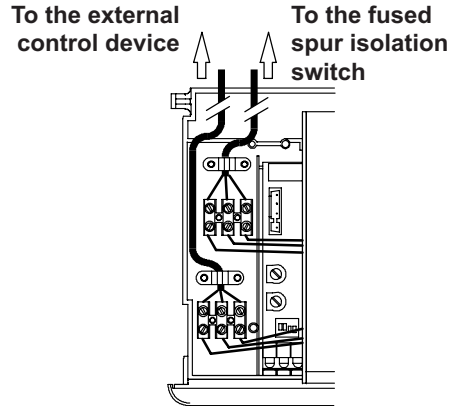

Fig. 6.19
- Route the electrical supply flexible cord and the external control flexible cord as illustrated in Fig. 6.19. Lock the flexible cords in place with the flexible cord clamps